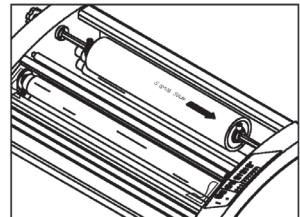

Figure 7
1. Slightly slide the upper film shaft to the right and pull it out from the machine. (Fig. 7)